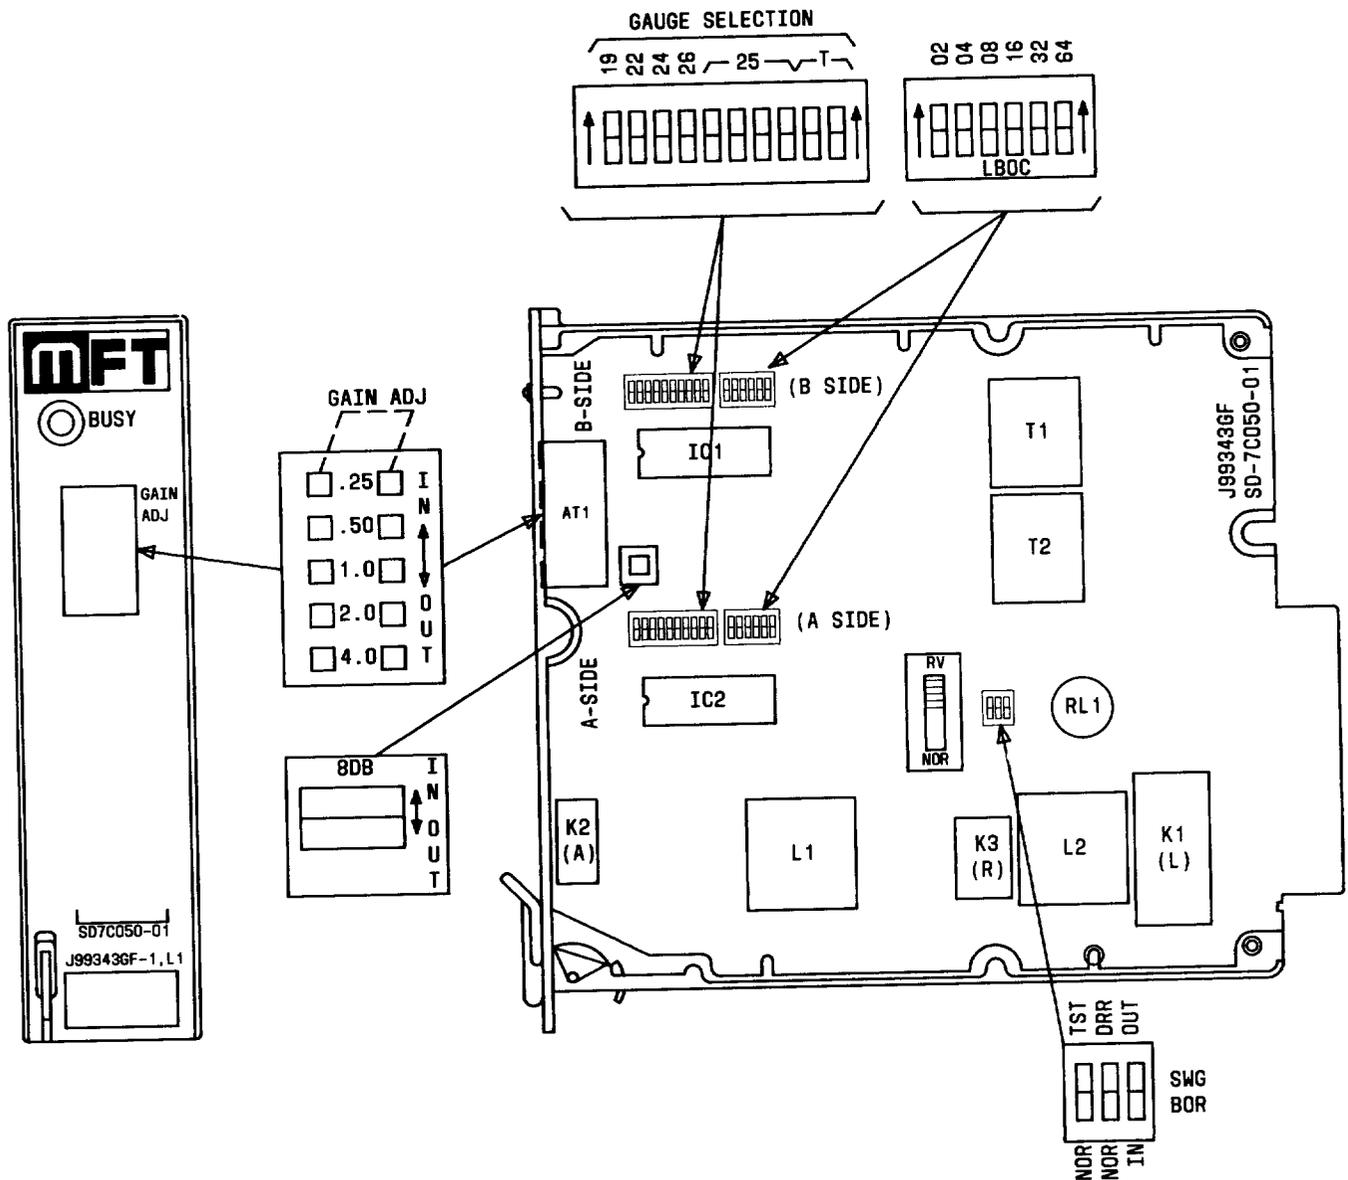

Fig. 1—J99343GF L1—Component Layout
2.01 The J99343GF, List 1 is shown in Fig. 1. It provides gain, equalization, and regenerative loop-start dc range extension between 2-wire H88 loaded facilities or between terminal equipment and an H88 loaded facility. Figure 2 shows a block diagram of this unit.
2.10 The rocker-type switches for a particular function, which are described in the following paragraphs, are operated when depressed toward the respective designation. The sum of the values of the switches operated is the setting for that function. The unit controls are illustrated in Fig. 1.